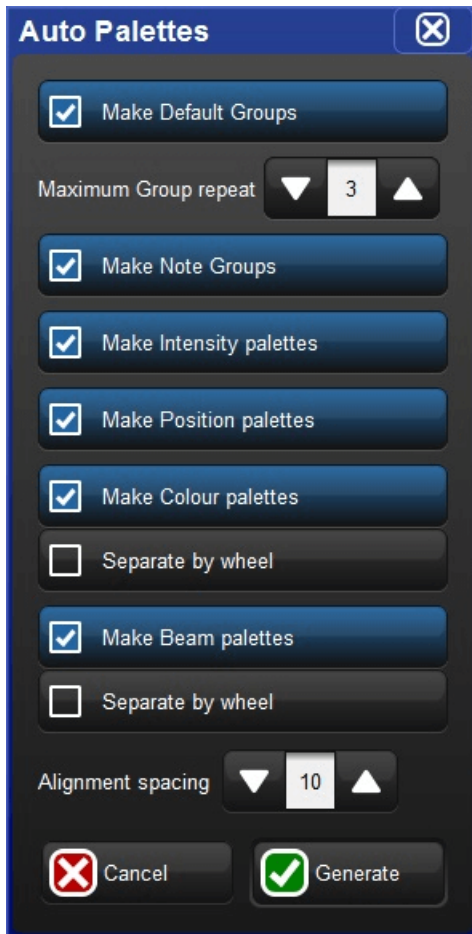

Figure 5.11. The Auto Palettes window
2. Click on the Auto Palettes button (located in the toolbar at the top of the Fixture window) and select from the options in the Auto Palettes window; see *Figure 5.11, "The Auto Palettes window"*.